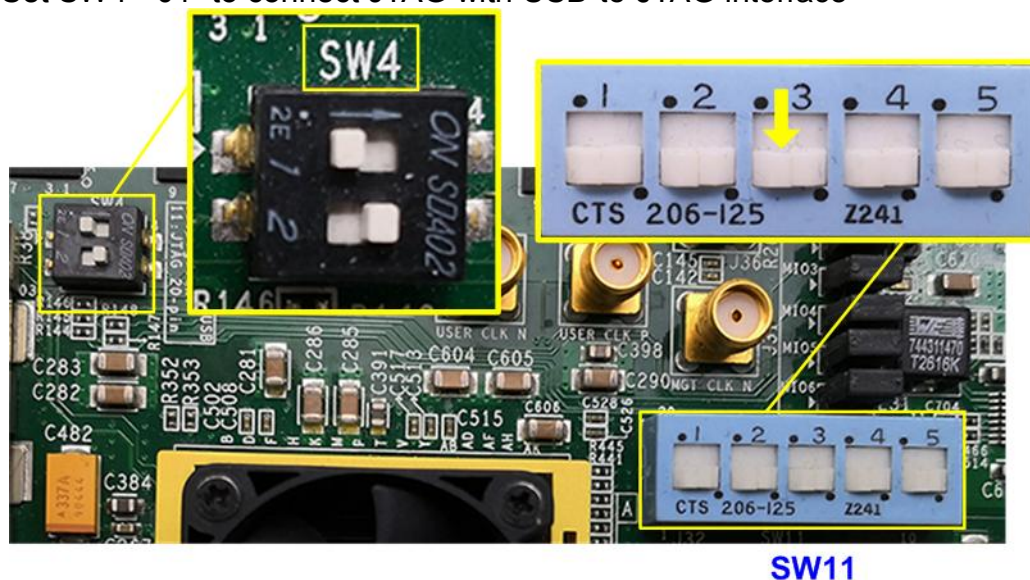

Figure 2-1 SW setting on ZC706 board
- 2) Set up board option for ZC706 board as shown in Figure 2-1.